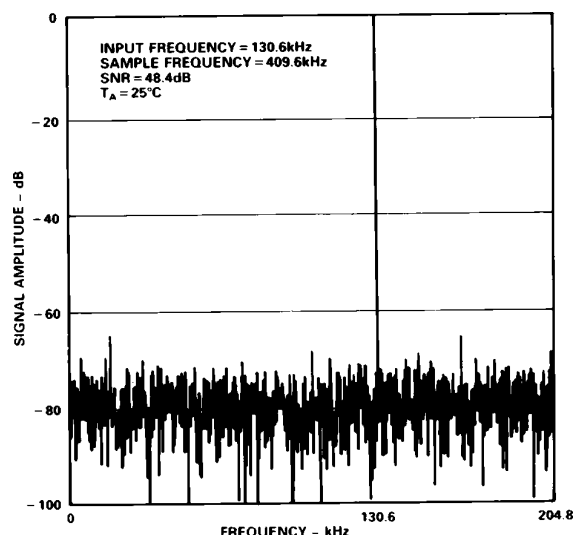

Figure 13. ADC FFT Plot
Figure 13 shows a 2048 point FFT plot of the ADC with an input signal of 130 kHz. The SNR is 48.4 dB. It can be seen that most of the harmonics are buried in the noise floor. It should be noted that the harmonics are taken into account when calculating the SNR. The relationship between SNR and resolution (N) is expressed by the following equation: